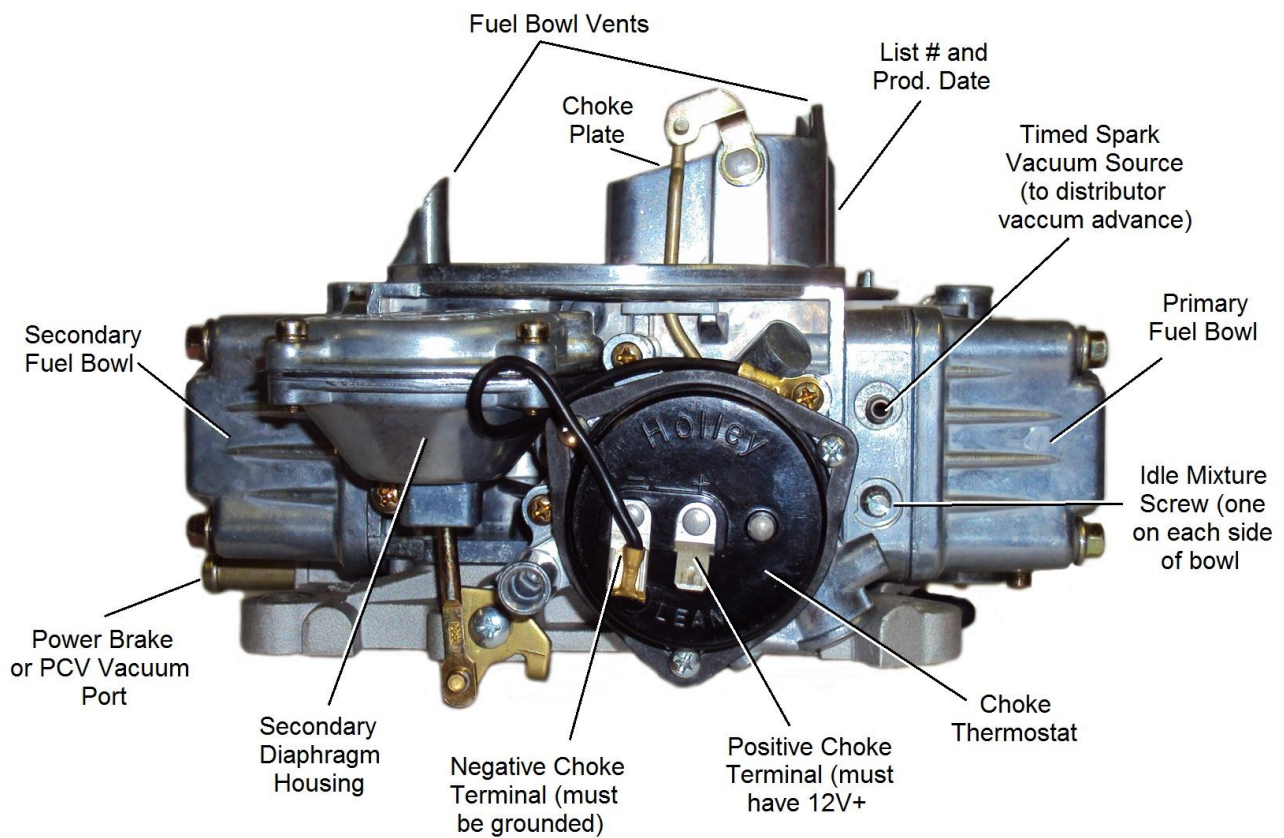
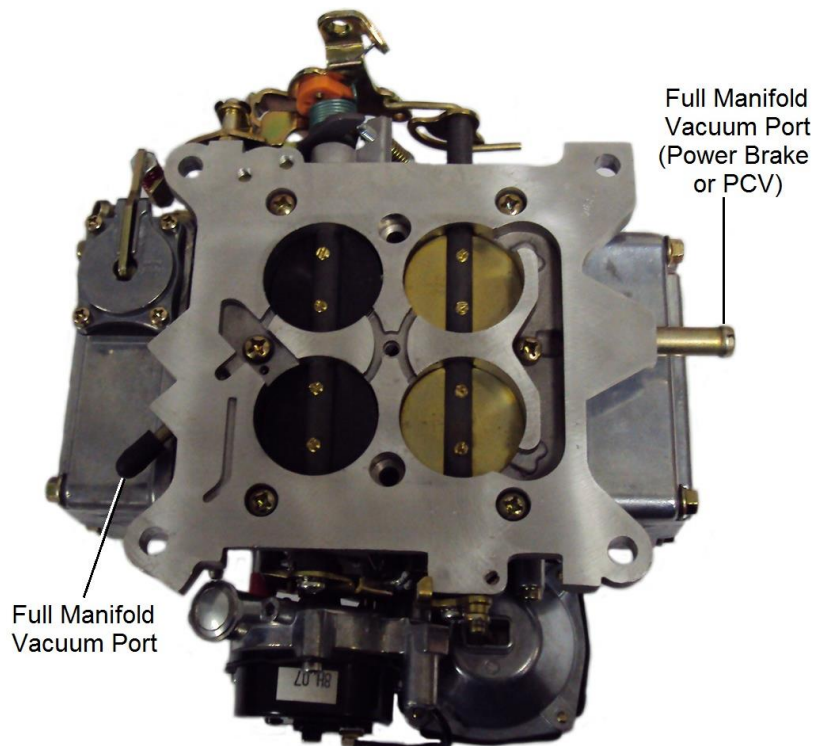

Figure 2a.
Figure 3
6. Reconnect the appropriate vacuum hoses to the carburetor, noting the correct fitting from **Figure 2a** and **Figure 3**. Replace any cracked or dry rotted hoses at this time to prevent any vacuum leaks.
8. Connect the power brake and/or PCV hose to the fitting as shown in **Figure 3**.
1. Attach the vacuum gauge to a manifold vacuum port on the throttle body (**Figure 3**).